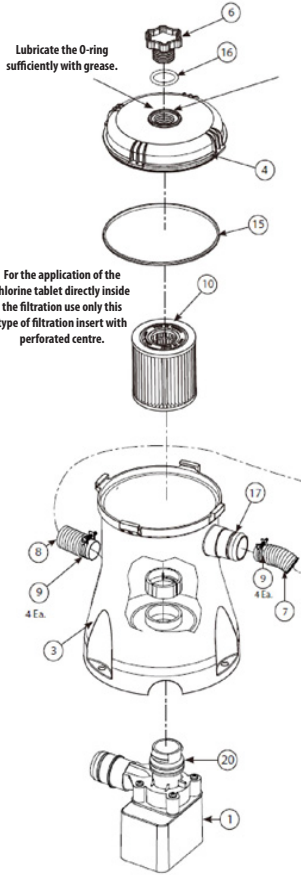

Fig. 1
- Take the inlet and discharge hoses (7, 8) and the four hose couplings (9) from the bag with the accessories. Loosen the hose clamps and insert them on both ends of each hose. Fit one hose on the filtration case inlet and one hose to its discharge. Tighten both hose clamps (9) on the filtration case. See **fig. 1, 3 and 4**.
- Install the strainer with grommet (11, 12) to the pool wall outlet. Fit the inlet hose from the filtration case to the pool grommet. Tighten the hose coupling. See **fig. 1, 3 and 4**.
- Install the baffle with grommet (11, 13) to the pool wall outlet. Fit the inlet hose of the filtration case to the inlet pool grommet. Tighten the hose coupling. Start filling the pool. See **fig. 1, 3 and 4**.